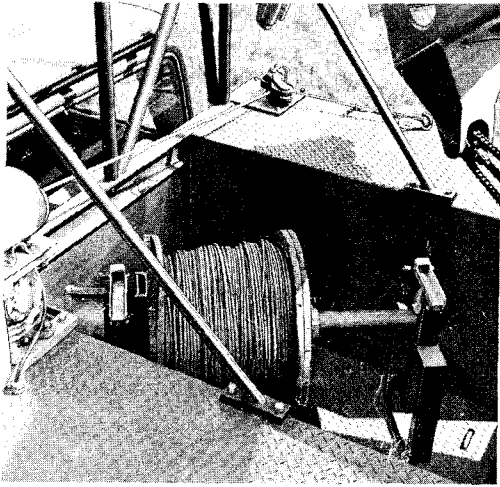

Fig. 7—Reel in Place in TELSTA Strand Reel Carrier
- (6) Elevate the boom until the reel is clear of the truck body and rotate the boom to position the reel over the strand reel well.
- (7) Lower the boom to lower the reel into the strand reel well. While the reel is being lowered, it must be guided so the spindle will seat properly on the spindle support frames. Close the latches on the support frame and detach the lifting chain. Fig. 7 shows the reel in place.
- (8) Remove the pin from the top section of the swivel bull wheel, swing the section forward, and lock in place by replacing the pin.